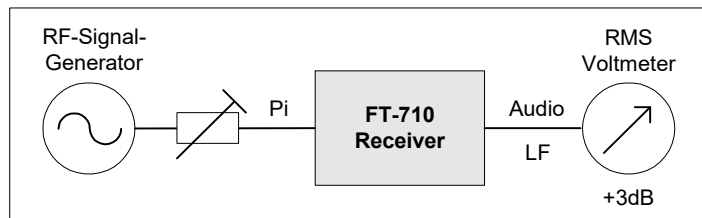

Figure 4: Measurement setup to determine the sensitivity
The sensitivity is defined as the size of the receiver noise floor (MDS, Minimum Discernible Signal). If a CW signal is applied to the input of the receiver whose level ( $P_i$ ) raises the noise floor of the receiver by 3dB (voltage increase at the RMS voltmeter by a factor of 1.414), then the power of the signal according to  $(S+N)/N = 2$  corresponds to the noise floor of the receiver. Set the overlay tone (LF) at the loudspeaker to approx. 700Hz. For this measurement, a calibrated RF generator, a switchable attenuator and a RMS-voltmeter are required (**Fig. 4**).